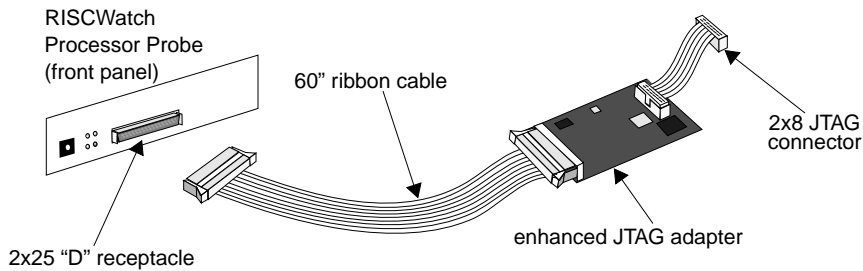

Figure 2-3. Enhanced JTAG Adapter Assembly
6. If your adapter assembly resembles Figure 2-3, you have an enhanced JTAG adapter. To assemble the adapter and cables, perform the following steps: